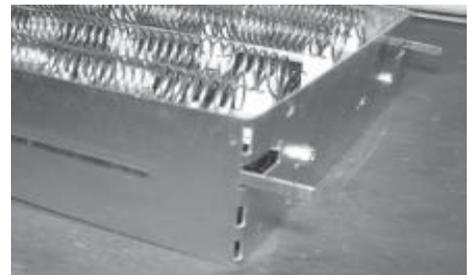

Fig. 1 - Alignment tabs.
4. The use of heater alignment tabs is optional. These alignment tabs are located on the endcap. To use the tabs, bend these 90 degrees out and slide into the alignment holes of the air handler (see fig 1 & 2. )